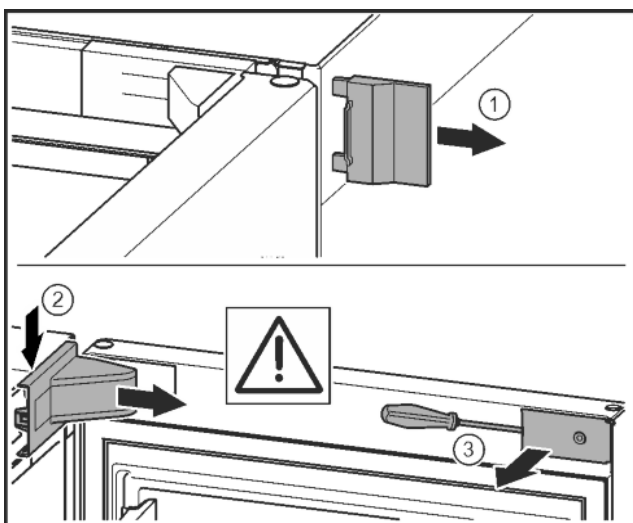

Fig. 11\*
- ▶ Remove the outer cover.\* Fig. 11 (1)
- ▶ Disengage and release the bearing bracket cover. Remove the bearing bracket cover.\* Fig. 11 (2)
- ▶ Unlatch the panel with a slotted screwdriver and swivel it to one side.\* Fig. 11 (3)